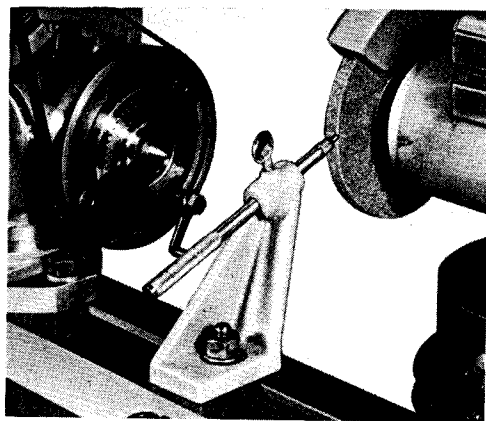

Figure 24A
**Truing the Wheel.** The grinding wheel must be trued occasionally to obtain a good finish on the clearance angles of the cutter, for a good finish makes a keen cutting edge. For this operation, the wheel truing attachment shown in Figure 24A is supplied. Use the differential hand control to give the table a uniform motion, because the diamond will produce a much better surface on the wheel if it is traversed uniformly.